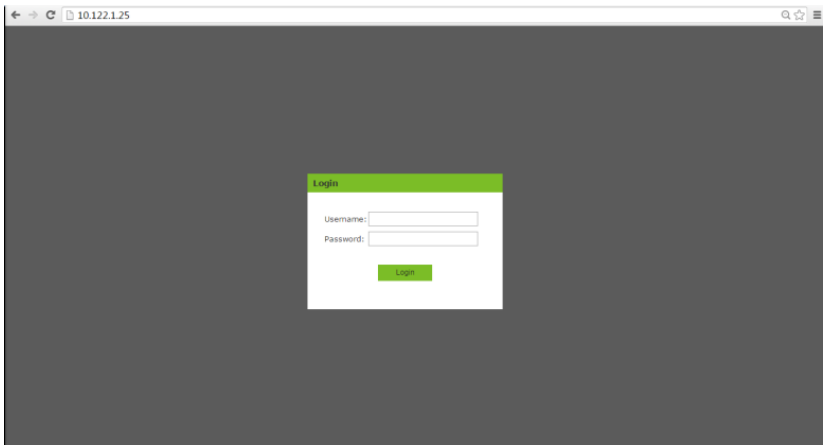

Figure 3-1
3.1.4 Launch an internet browser and enter the IP address: 10.122.1.25. Next, enter the username as “admin” and password as “admin”, in the fields shown in Figure 3-1: